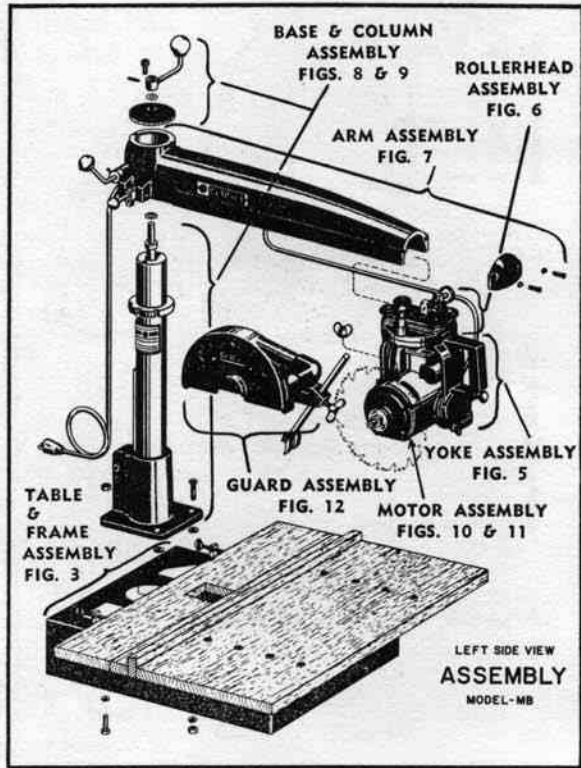

Figure 1
1. From Figure 1 and 2, page ..., identify assembly in which part desired is located.
2. Refer to proper assembly illustration as shown in Figure 1 and 2.